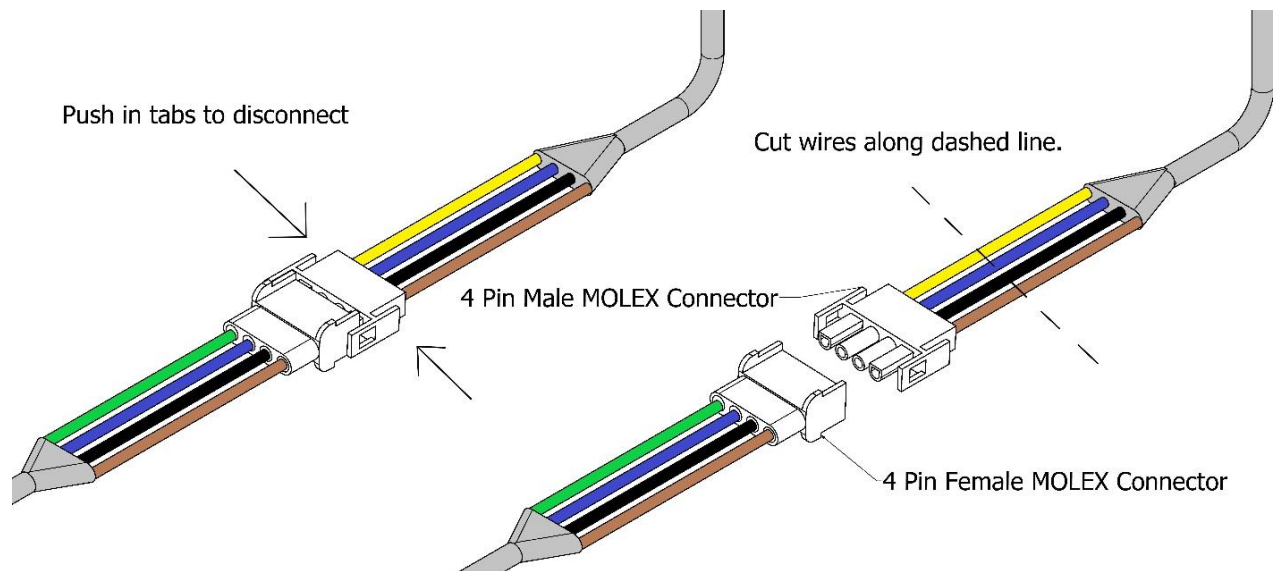

Figure 17
9.) Disconnect the 4 pin MOLEX connectors joining the fan motor to the wiring harness. Identify the wires that attach to the fan motor (side with male MOLEX connector). Cut these wires on the dashed line shown in Figure 17.